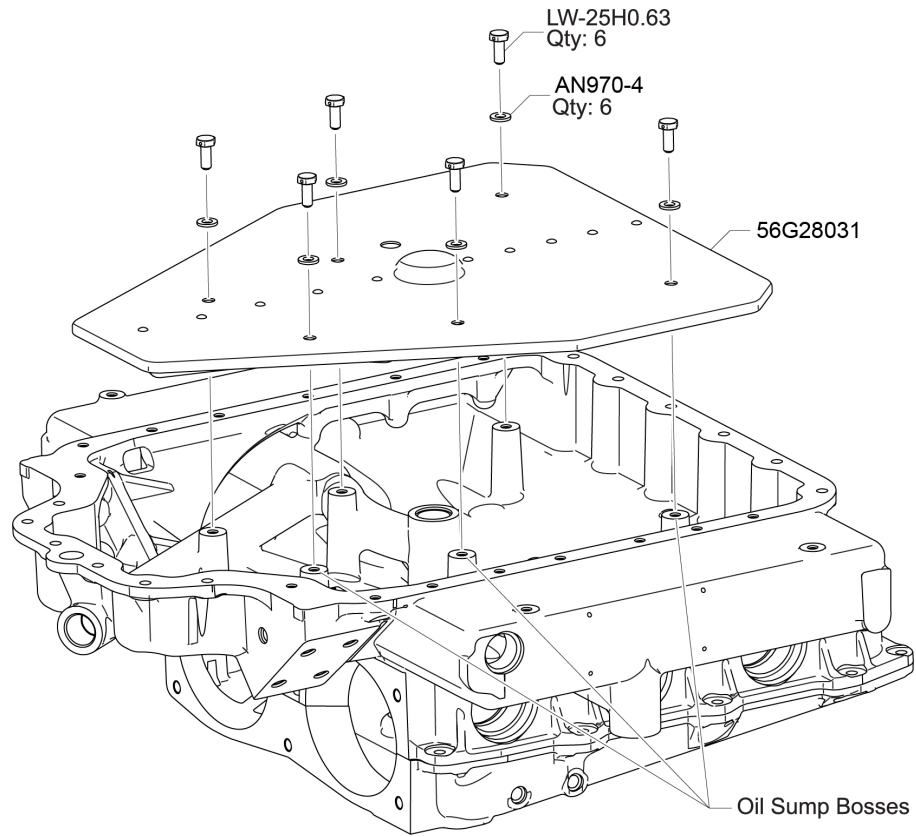

Figure 3
Part II – Installation Instructions for Oil Sump Baffle P/N 56G28031 (Models Compatible to Figure 3)
When replacement is necessary on oil sumps with six integral bosses (P/N *56A26070-XX or 56A26071-XX), use oil sump baffle P/N 56G28031 (Figure 3).
3. Remove the six bolts P/N LW-25H0.63 and washers P/N STD-8 from the baffle (Figure 3).